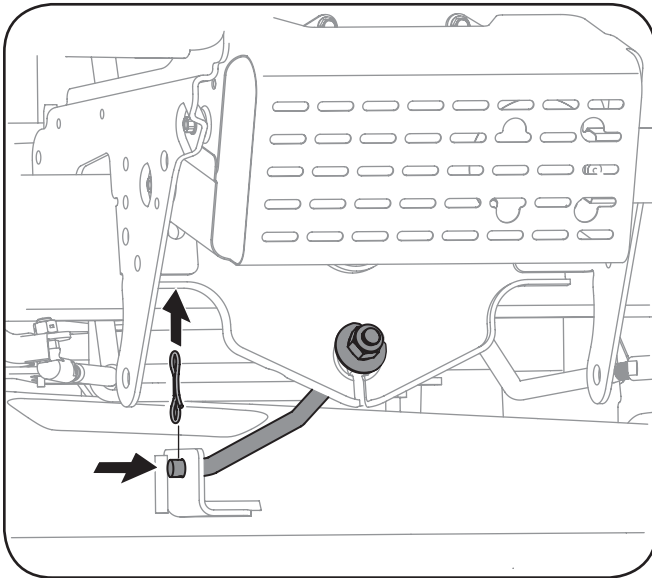

Figure 7-5
- On 42" & 46" Decks:** Remove the bow-tie cotter pin securing the deck stabilizer rod to the deck. Slide the deck lift rod from the mounting weldment on the deck as seen in Figure 7-5.